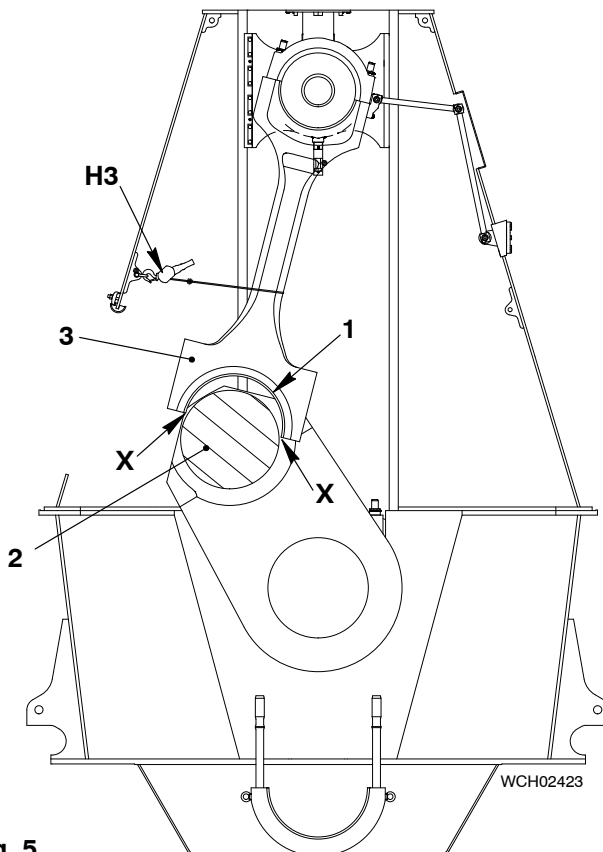

Fig. 5
- 8) Put the chain of the manual ratchet (H3, Fig. 5) around the connecting rod (3).
- 9) Operate the turning gear to turn the crank (2) to the fuel side. Keep the tension on the manual ratchet (H3).
- 10) Make sure that there is no load on the corners (X) of the bearing shell (1).
- 11) Operate the turning gear to turn the crank (2) to 100° after TDC.
- 12) Do a check of the bearing shell (1).
- 15) Operate the turning gear to move the crank to TDC. Make sure that there is no load at the points (X, Fig. 5).